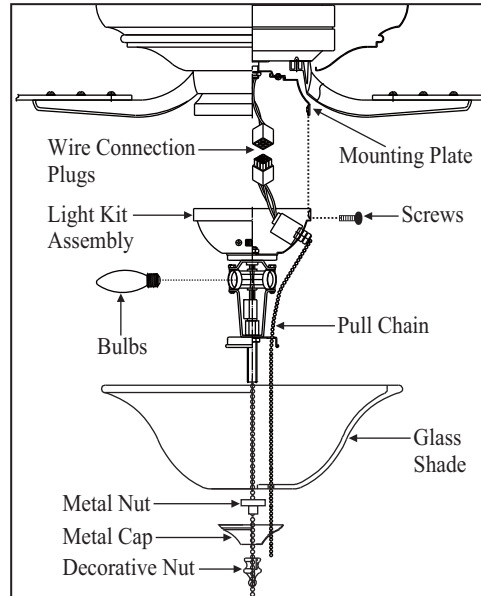

Figure 14
1. While holding the light kit assembly under your fan, snap the wire connection plugs together (Fig. 14).
2. Carefully push all wires back into the switch housing, then install the light kit assembly onto the mounting plate with 3 screws provided. Be sure to tighten all screws. (Fig. 14)
4. Remove the metal nut, metal cap and decorative nut from the light kit. Place glass shade over the light kit stem, secure with the metal nut (rubber side on the top), metal cap and decorative nut. Do not overtighten (Fig. 14).
5. Insert the 2 pull chain through the eyelet in the shade and cap. Secure the metal cap and decorative nut provided (Fig. 14).